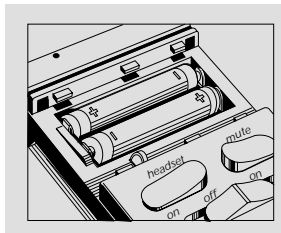

Figure 4-3. Inserting the Batteries.
3. If batteries are required according to Table 4-1, insert two AA batteries as indicated on the bottom of the battery compartment. See Figure 4-3.